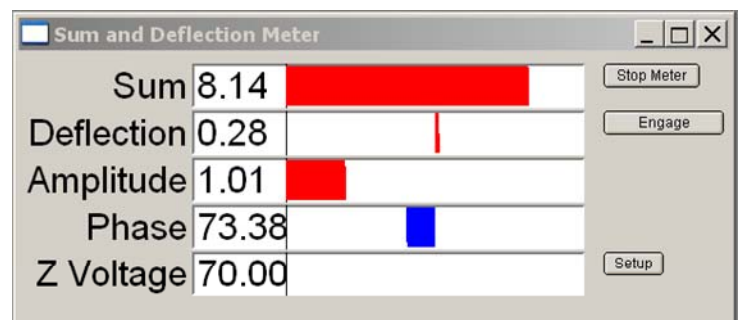

Figure 6.1.4: S&D meter after an Auto Tune; before tip engagement
- At this point, the S&D meter has a 'free air' amplitude of 1.0 V (~ +/- 0.02 V), and the Phase value in S&D meter gives the 'free air' value of the phase- *this latter value will be important when tuning the parameters to avoid mode hopping artifacts.* A post auto tune example of what the S&D meter looks like is shown in Figure 6.1.4. If the 'Engage' button hasn't been activated since starting the software, there usually isn't any Z voltage color meter present, although it may say 70V (Figure 6.1.4- *don't be alarmed by this*).